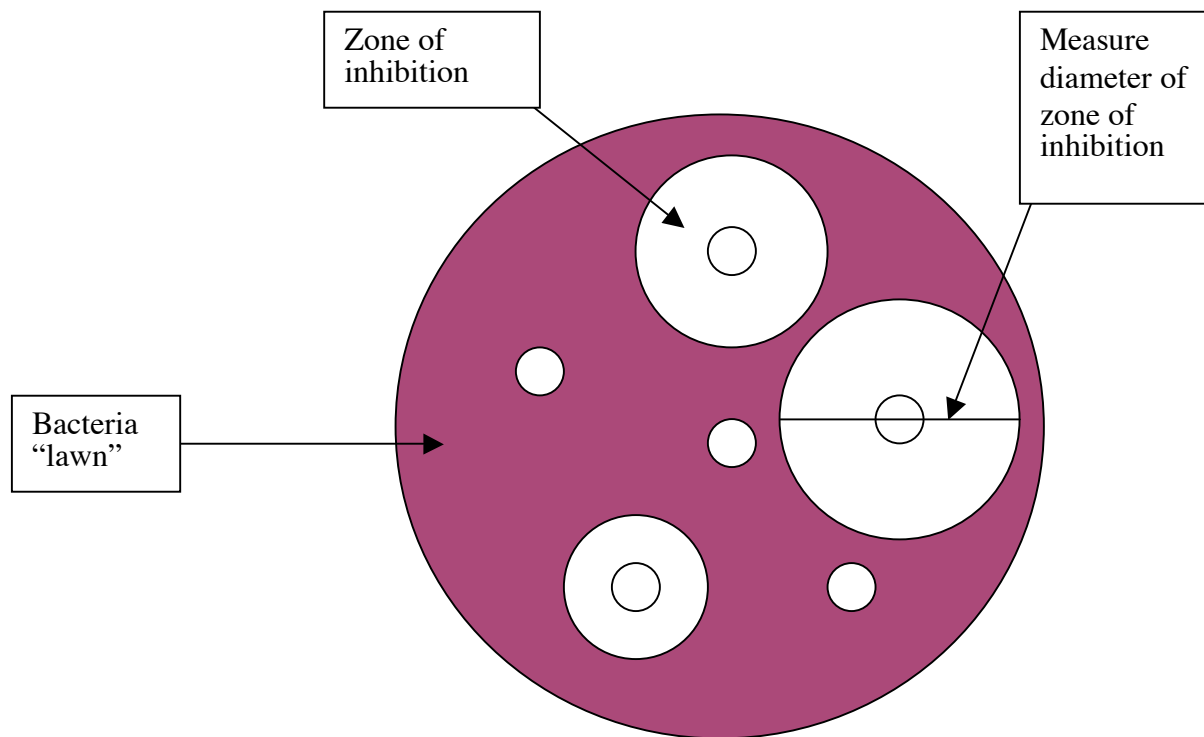

Figure 7. Collecting data from Kirby-Bauer antimicrobial experiment
7. Come in *tomorrow* and record the zones of inhibition for each substance tested (fig 7). **Do NOT open plates.** When all data are collected dispose of plates in appropriate container.